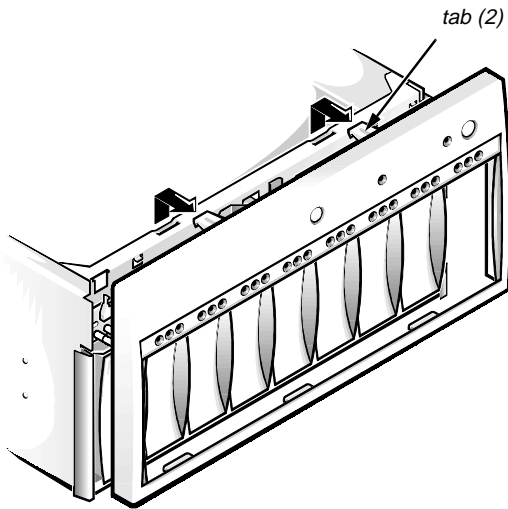

Figure B-6. Removing the Front Bezel
2. Lift the two tabs along the upper edge of the front bezel (see Figure B-6).